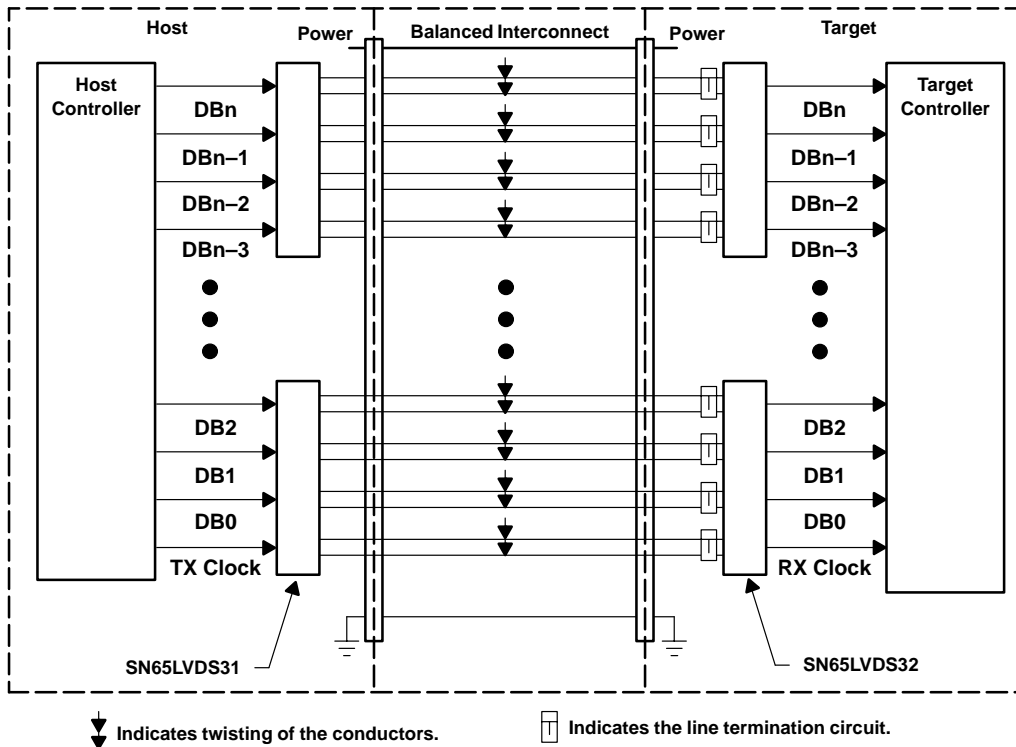

Figure 1. Typical Connection with LVDS Transmitters and Receivers.
Figure 1 shows a typical connection with LVDS transmitters and receivers.
- The system diagram in Figure 1 shows locations of the terminations.